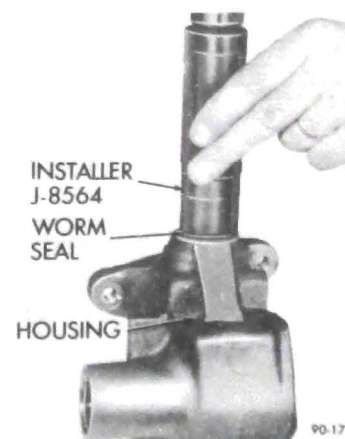

Figure 90-13 Installing Worm Shaft Seal
9. Install new worm shaft seal using Installer J-8564. Drive seal flush with surface of housing. See Figure 90-13.